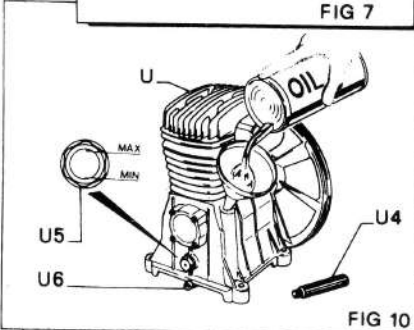

FIG 10
- Assemble the wheels (O) and components (L-C) as per fig. (7-8). Check the information shown on the plate (N) with the characteristics of the installation (+ or -10% voltage fluctuation is acceptable).
- Check oil level on the viewer (U5) and eventually fill-in through the breather pipe (U4) fig. 10. Level under the lower edge, is
Tighten the drain plug (U6) checking that there are no losses during the use. Keep oil level to the high of the red central ref. (fig. 10) testing it weekly to assure correct lubrication.